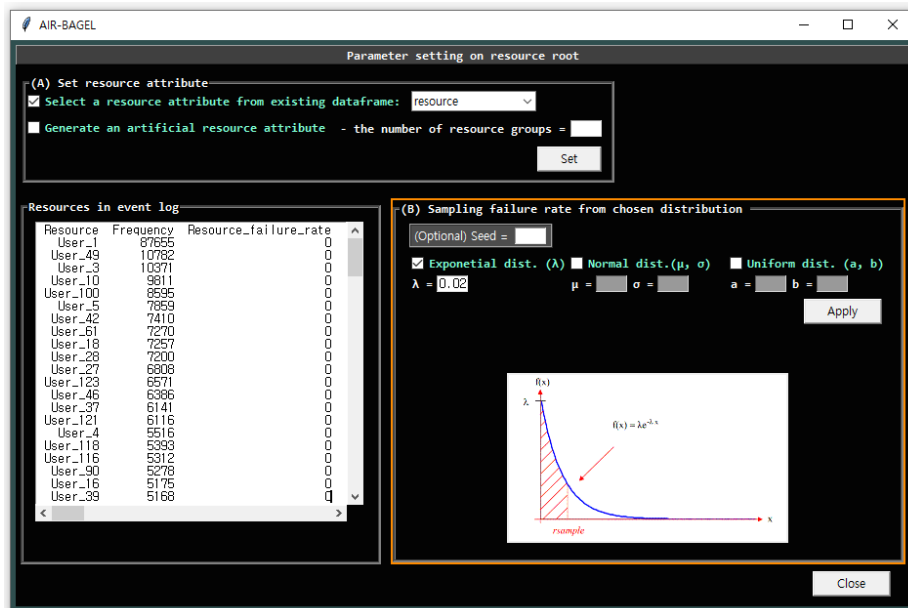
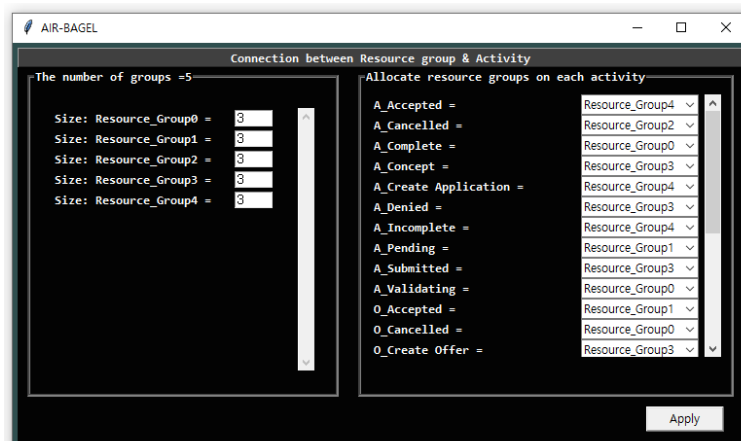

Figure 4 Setting failure rate with 'Random' option
Figure 5 Generating an artificial resource attribute
In either case, you need first to tell AIR-BAGEL which is the resource attribute in the event log (see Fig.4). If the resource attribute is missing, AIR-BAGEL can generate it for you: you can specify the number and size of resource groups. Resource groups will then be mapped randomly to event classes, i.e., activities (see Fig.5). One resource from each group will be assigned to events based on its class (i.e., activity label). You can then manually modify this configuration if needed. Before injecting anomalies, for each event belonging to certain class, AIR-BAGEL will assign one resource chosen randomly from the corresponding group.
- A. If there is a resource attribute in event log, select it and click **Set** (Fig.4)
- i. Set the number of resource groups and click **Set** (Fig.4)
- ii. Set the size of each resource group (Fig.5)
- iii. Map each activity (event class) to a resource group (Fig.5)
- iv. Click **Apply** (Fig.5, you can modify the created mapping manually if needed)
- Select one distribution among exponential/normal/uniform dist. (Fig.4)
- Set probability parameters with number ranged from 0 and 1 on selected distribution (Fig.4)
- 2. Click **Apply**, you can check the resource list updated with failure probability in left-hand frame (Fig.4)
- 3. Click **Close** (Fig.4)